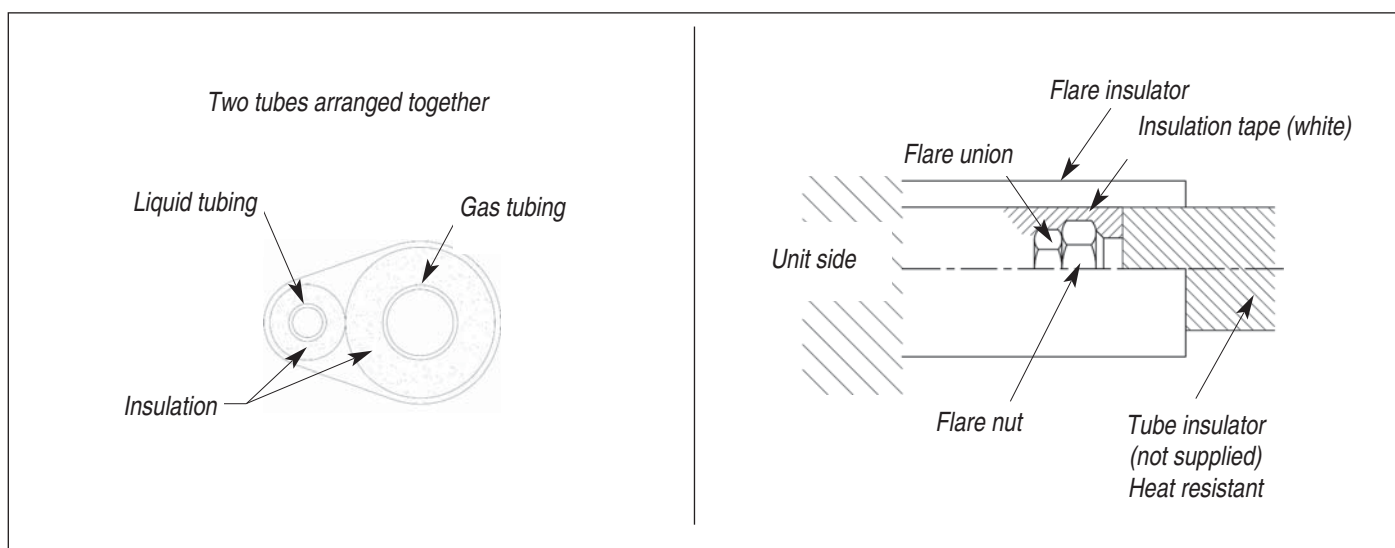

fig. 9
7.8.3 Insulating the refrigerant tubing (fig. 9)